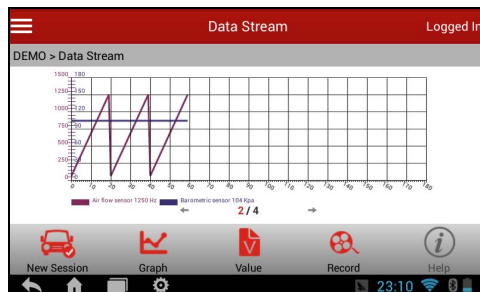

Fig. 5-17
- ✓ **Combine** – this option is mostly used in graph merge status for data comparison. In this case, different items are marked in different colors. See Fig. 5-17.